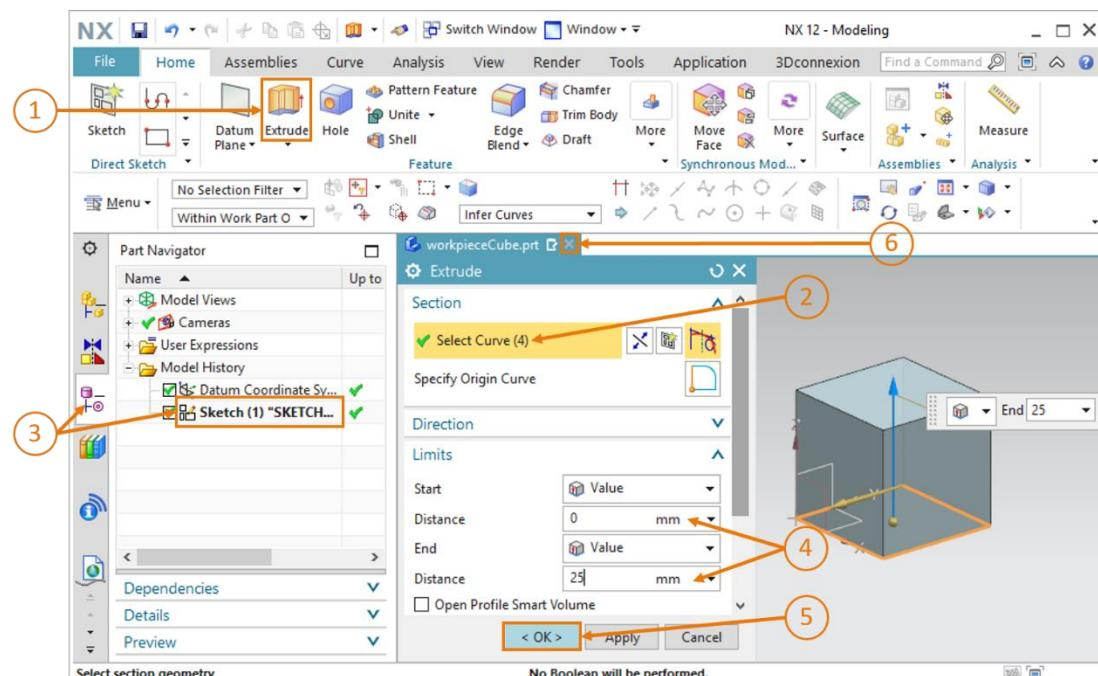

Figure 14: Extruding a square into a cube
- To create a cube from the two-dimensional square, the sketched square must be converted to three-dimensional space using the "Extrude" function. For this purpose, click the "Extrude" function in the form elements menu bar (see Figure 14, step 1). The "Extrude" window opens, where, you specify the parameters for this operation. In this window, click on "Select Curve" under "Section" (see Figure 14, step 2).
In the **Part Navigator** , select the **sketch** you previously created in the **Model History** (see Figure 14, step 3). You should now see the future 3D model in the graphics window. Adjust the limit parameters, as highlighted in Figure 14, step 4, as follows:
Confirm the operation with the "**OK**" button (see Figure 14, step 5).
You have now designed your first 3D model completely independently. Finally, switch back to the trimetric view, as described in Chapter 7.1, step 3, and save your model. Close the model by clicking on the "X" button in the model selection bar (see Figure 14, step 6).